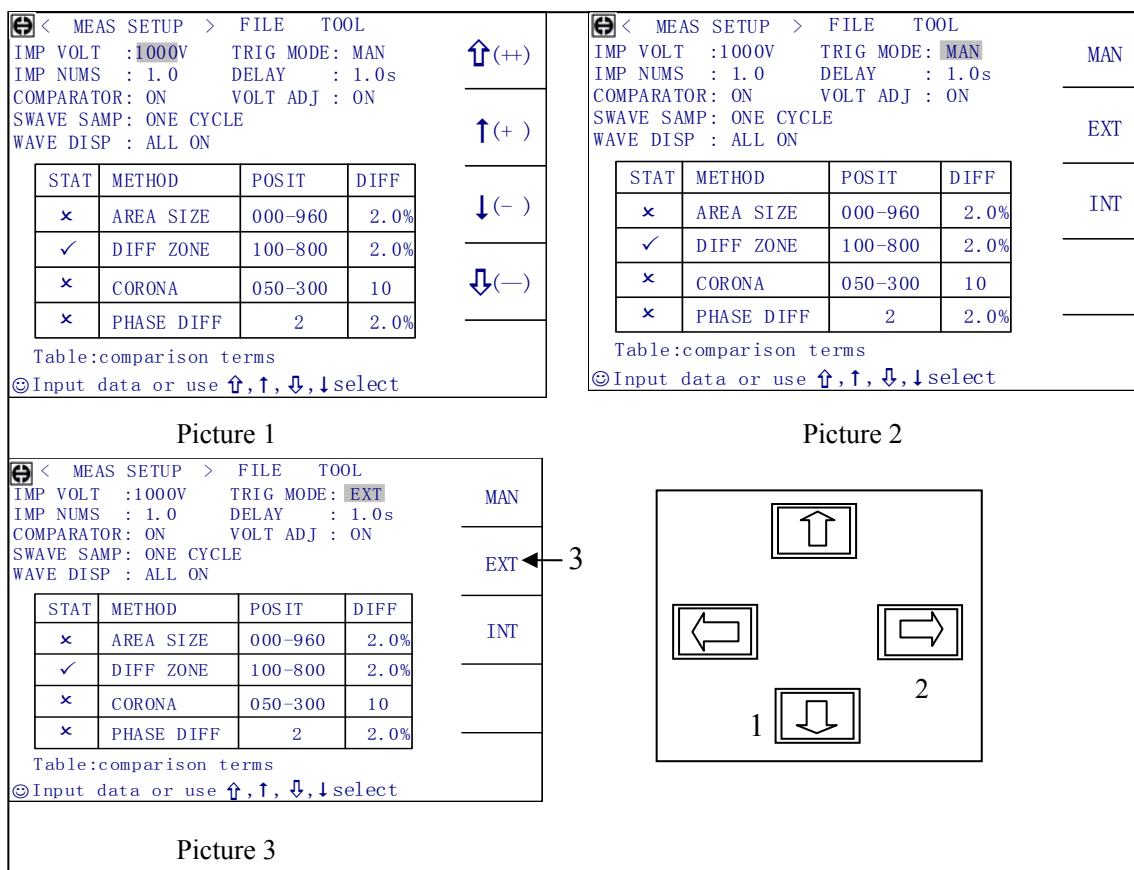

Figure 4-1 Operation procedure
Figure 4-1 shows an operation example to set the trigger mode to the External mode. As the figure shows, press [↓] key to enter into picture 1; [→] key, picture 2; press the soft key 2, the trigger mode will be changed to **EXT**. The operation sequence of keys corresponding to the numeric label of picture 3.